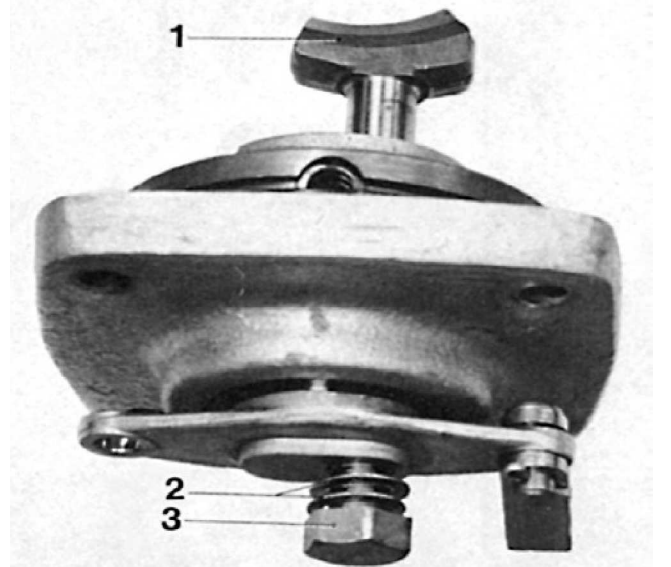

Fig. 23.
4. Fit the spring and friction lug (56) as well as the O-ring (67). Coat the contact surfaces with VP 1141570-0 or Permatex 679. Tighten the control mechanism in the gear housing so that the bolt (61) in the cover (54) is displaced towards the starboard. See Fig. 23.
5. Set the control mechanism to neutral position and remove all the shims (62) under the bolt (61). Now it will not be possible to rotate the shaft (43). Then fit the shims one at a time until the shaft can be rotated without resistance. After adjusting, apply sealing agent to the shims and bolt. Final fitting then follows.